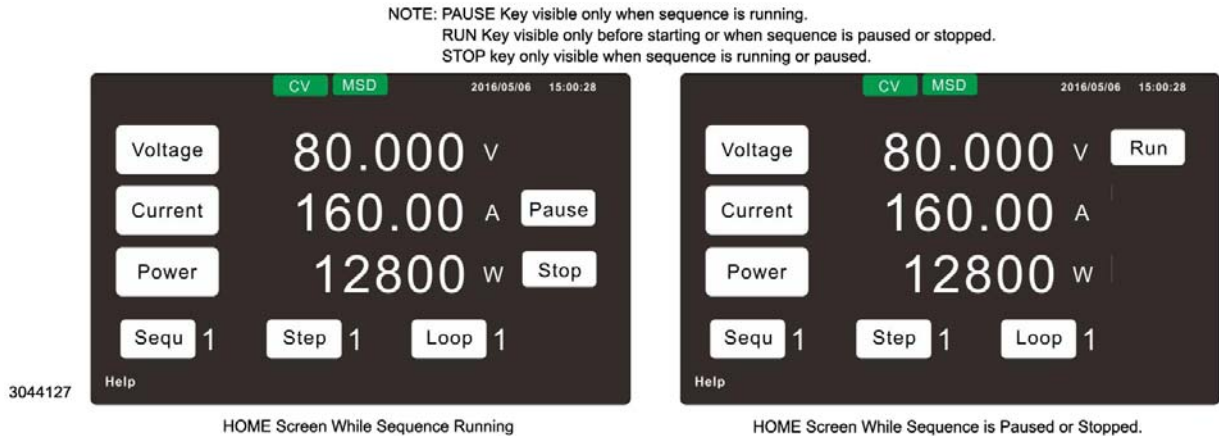

FIGURE 3-17. HOME SCREEN WHEN INSERTION MODE SELECTED^(†)
1. Press **HOME** for at least 1.5 seconds to return to the Home screen, which will be modified as shown in Figure 3-17 to show the starting sequence, step and loop number with Output ON and existing voltage, current and power settings still in effect.